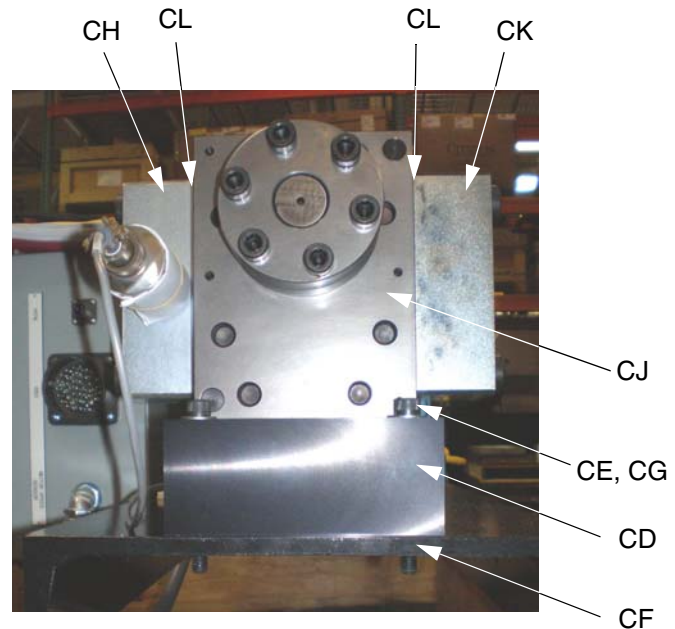
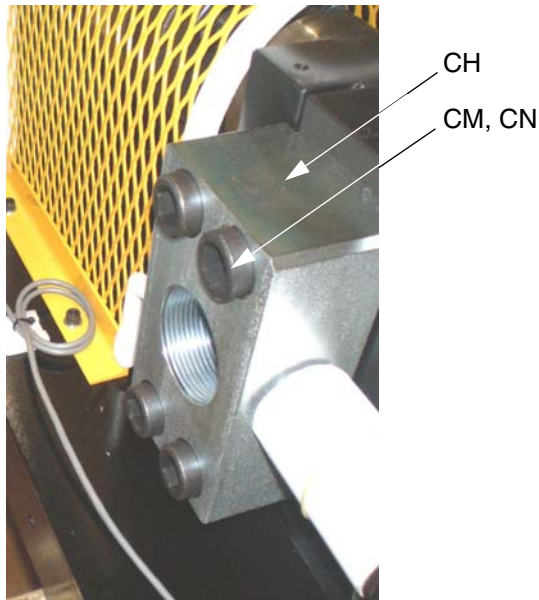

FIG. 8: Gear Pump
FIG. 9: Gear Pump Outlet Flange
5. Remove four screws (CE) and lockwashers (CG) from gear pump spacer (CD). See FIG. 8.
- Remove four screws (CM), lockwashers (CN), and two o-rings (CL) from the inlet flange (CK) and outlet flange (CH). Check the o-rings for damage and replace as necessary. See FIG. 8 and FIG. 9.
- Carefully pull away from the gear reducer the gear pump (CJ), gear spacer (CD) and half of coupling (118, 218, 318) attached to pump. Lay on a clean worksurface. See FIG. 8.
- Remove three screws (101, 201, 301) from the bottom of gear spacer (CD). See FIG. 8.
- Install bypass manifold (104, 204, 304) or spare gear pump (CJ). See FIG. 8.
- Connect gear pump (CJ) to gear spacer with three screws (101, 201, 301).
- Connect gear pump (CJ) and spacer (CD) to frame (CF) with screws (CE) and lockwashers (CG). See FIG. 8.
- Install inlet flange (CK) and outlet flange (CH), two o-rings (CL), four lockwashers (CN), and screws (CM). See FIG. 9.